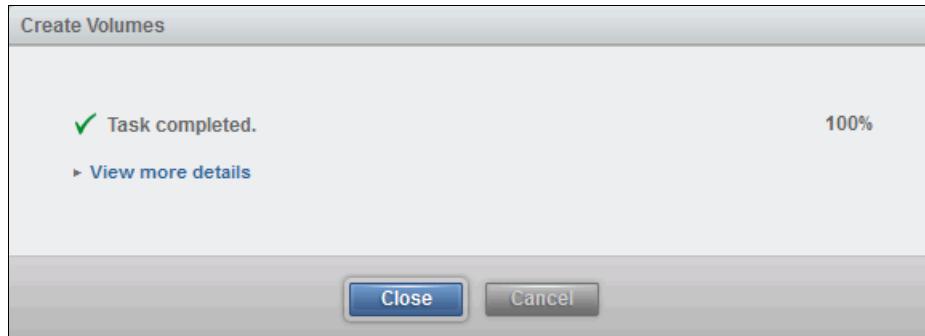

Figure 5-17 Completion of the Create Volumes wizard
- If you clicked **Create**, the wizard completes, as shown in Figure 5-17.